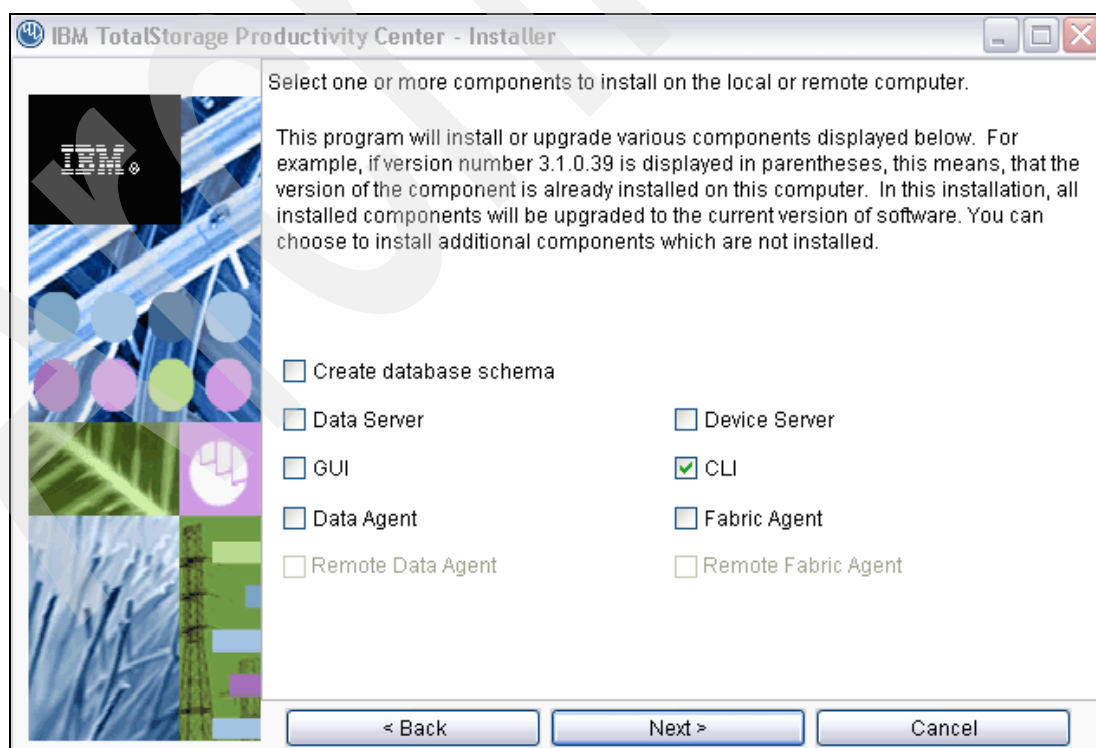

Figure 6-32 Select CLI to install
5. Select CLI (see Figure 6-32), ensure that all the other options are unchecked. Click **Next** to continue.